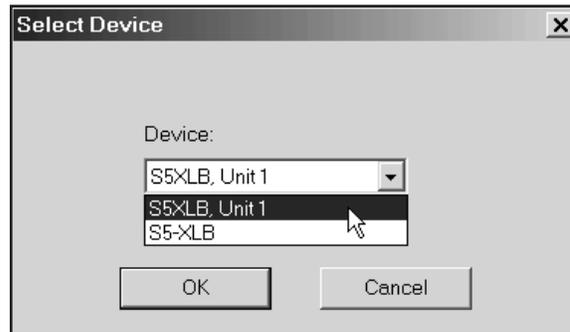

Figure 135 Select Device Dialog
1. Select **System | Alpha/Beta Amplifier Setup | Auto**. If more than one device is active on the system, select the *Device* to be setup from the Select Devices dialog box (Figure 135) and click **OK**.